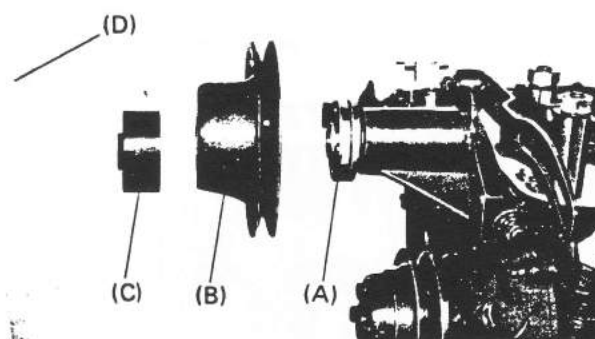

Fig. 142
- d. Fit the spacer (A), fan pulley (B), fan spacer (C), and cooling fan (D) to the pulley boss of the cooling fan complete in that order as shown in Fig. 142 with four holding bolts.